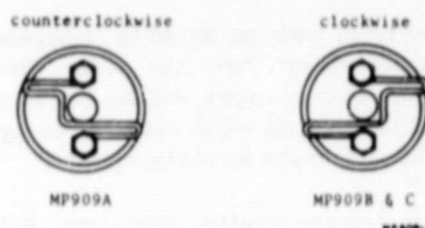

Fig. 3—Spring Clip Installation.
1. To remove end cap assembly, press in on cap (4) to free lugs from lock slot and rotate counterclockwise.
2. When replacing the diaphragm (6) on cup (5), bead on inside of diaphragm **MUST** fit over lip on cup (5).
3. To install piston (7) in new diaphragm, blow into end connection of cup, to fully extend the diaphragm.
5. Place piston (7) against end of diaphragm (6) and push. Allow just enough air to escape from beneath thumb, to prevent diaphragm from collapsing. Continue to push, until diaphragm smoothly envelops the piston.
6. Assemble the spring clip as shown in Fig. 3.